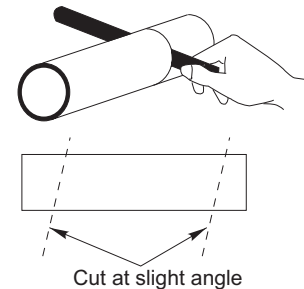

Fig. 2-160
- (5) Measure the thickness of the wall from the inside edge to the outside edge and cut PVC pipe at a slight angle 6 mm shorter than the thickness of the wall. (Fig. 2-160)